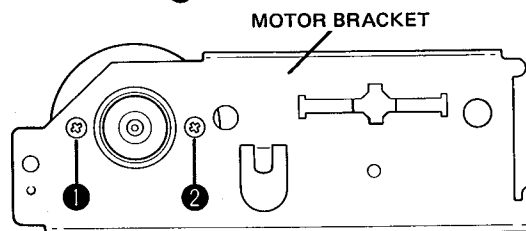

Fig. 14
4. Remove the screws ① and ② in Fig. 14 and then remove the motor.